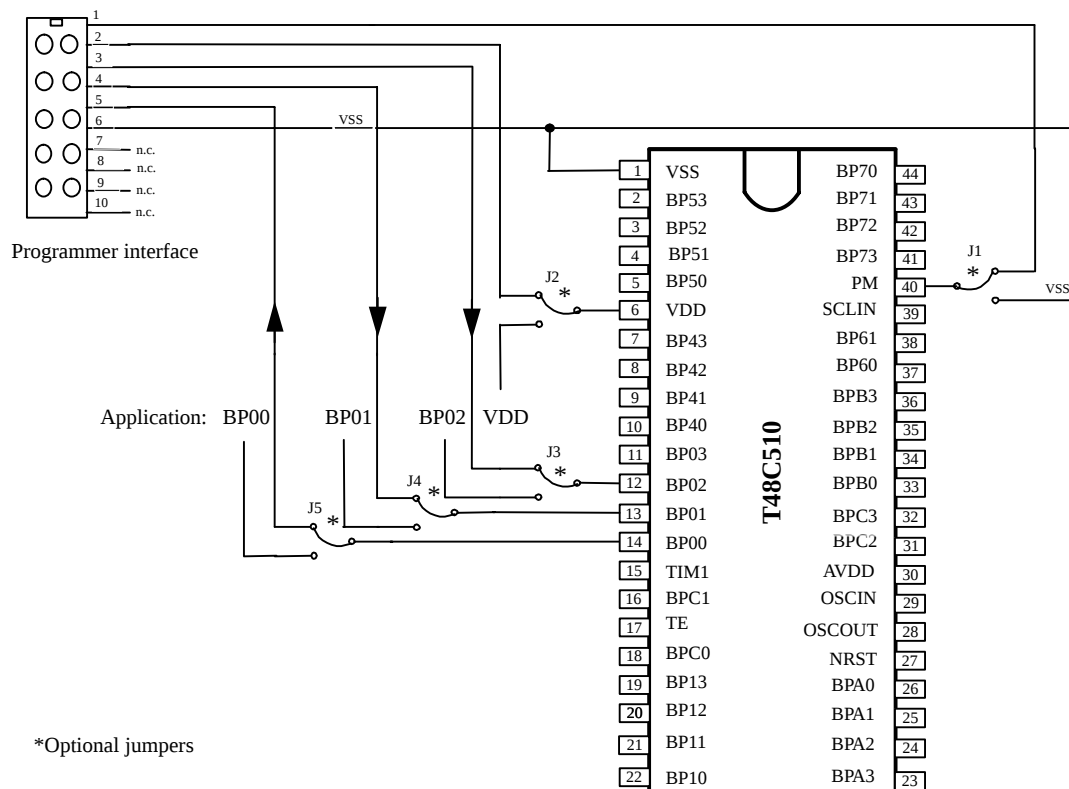

Figure 47. In-system programming
To accommodate the application program and the associated hardware option configuration, the T48C510 is equipped with 2 on-chip EEPROM memory blocks. These are written via a 6-signal Target Programmer Interface (TPI), comprising of 2 power lines (VDD and VSS), a Programm Mode signal (PM) and 3 data lines which are multiplexed onto 3 of the T48C510 functional pins – BP00, BP01 and BP02 (see figure 47). For setting up the required hardware options and downloading these along with the application program into the T48C510, the customer can be supplied with a dedicated PC based programmer software operating under Windows95/98 or NT and an In Circuit Programmer unit (ICP). The ICP is connected to the PC via a standard PC serial interface port and to the target device or application board (for in-system programming) via the TPI flat band cable.
For "in-system programming", the application circuit board must be fitted with a 10-pin male connector to accommodate the TPI connector. To ensure conflict-free access to the target T48C510 TPI related Pins (BP00, BP01, BP02 and PM) it is recommended that these are equipped with jumpers (J5, J4, J3 and J1) to avoid signal contention with other on board drivers sources. (see figure 47). However, if these can be overdriven, or if the Port 0 is not used in the application, then the jumpers can be omitted or replaced by isolating resistors. Prior to connecting the TPI, all other application power supply sources should be disconnected from the application circuit board. Should